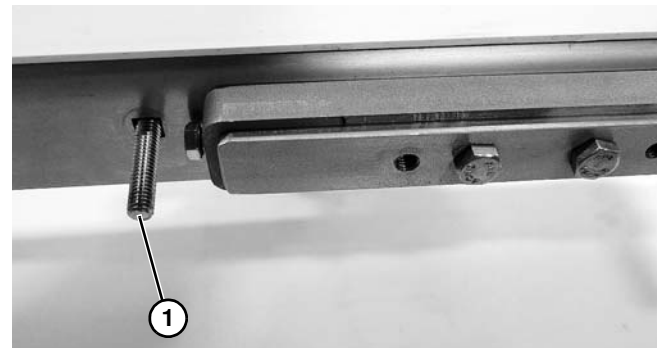

Figure 13
1. Drive End: Install carriage bolt (**Figure 13, item 1**) through square hole in conveyor frame on each side.